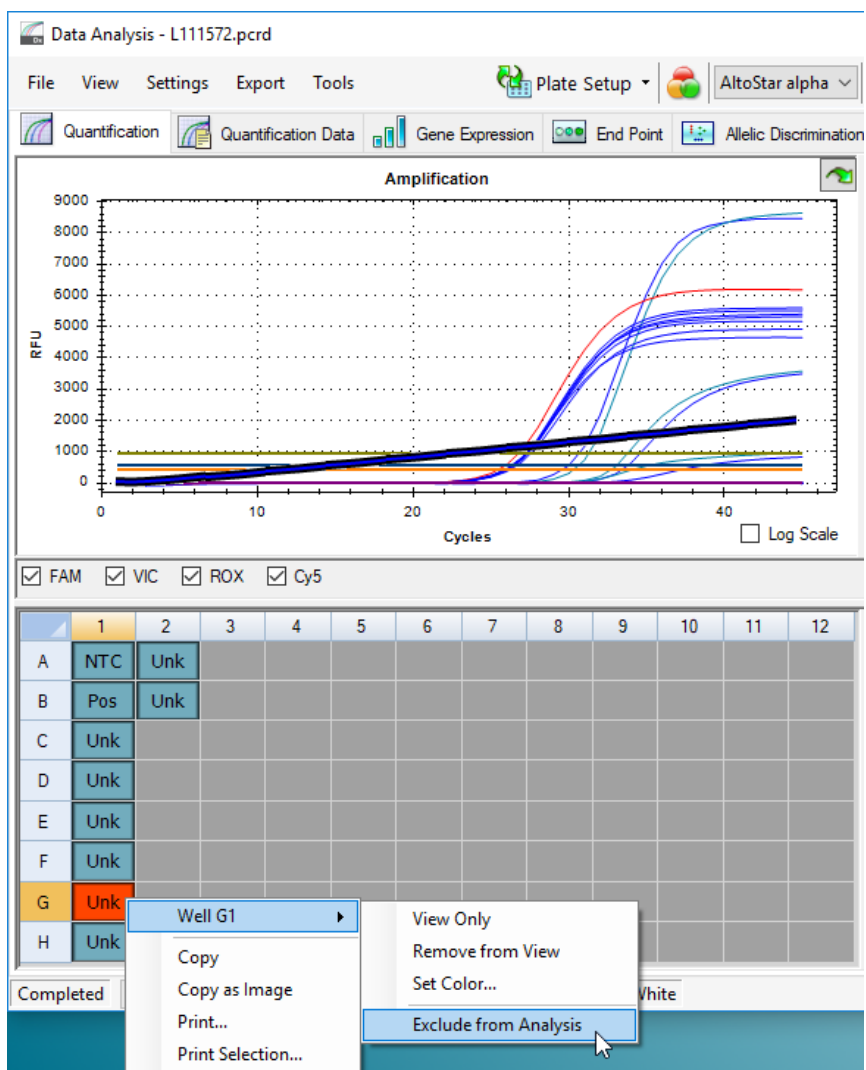

Figure 7: Data Analysis window: exclude well from analysis
- Click each affected well with the right mouse button and select **Well... → Exclude from Analysis** (see figure 7).